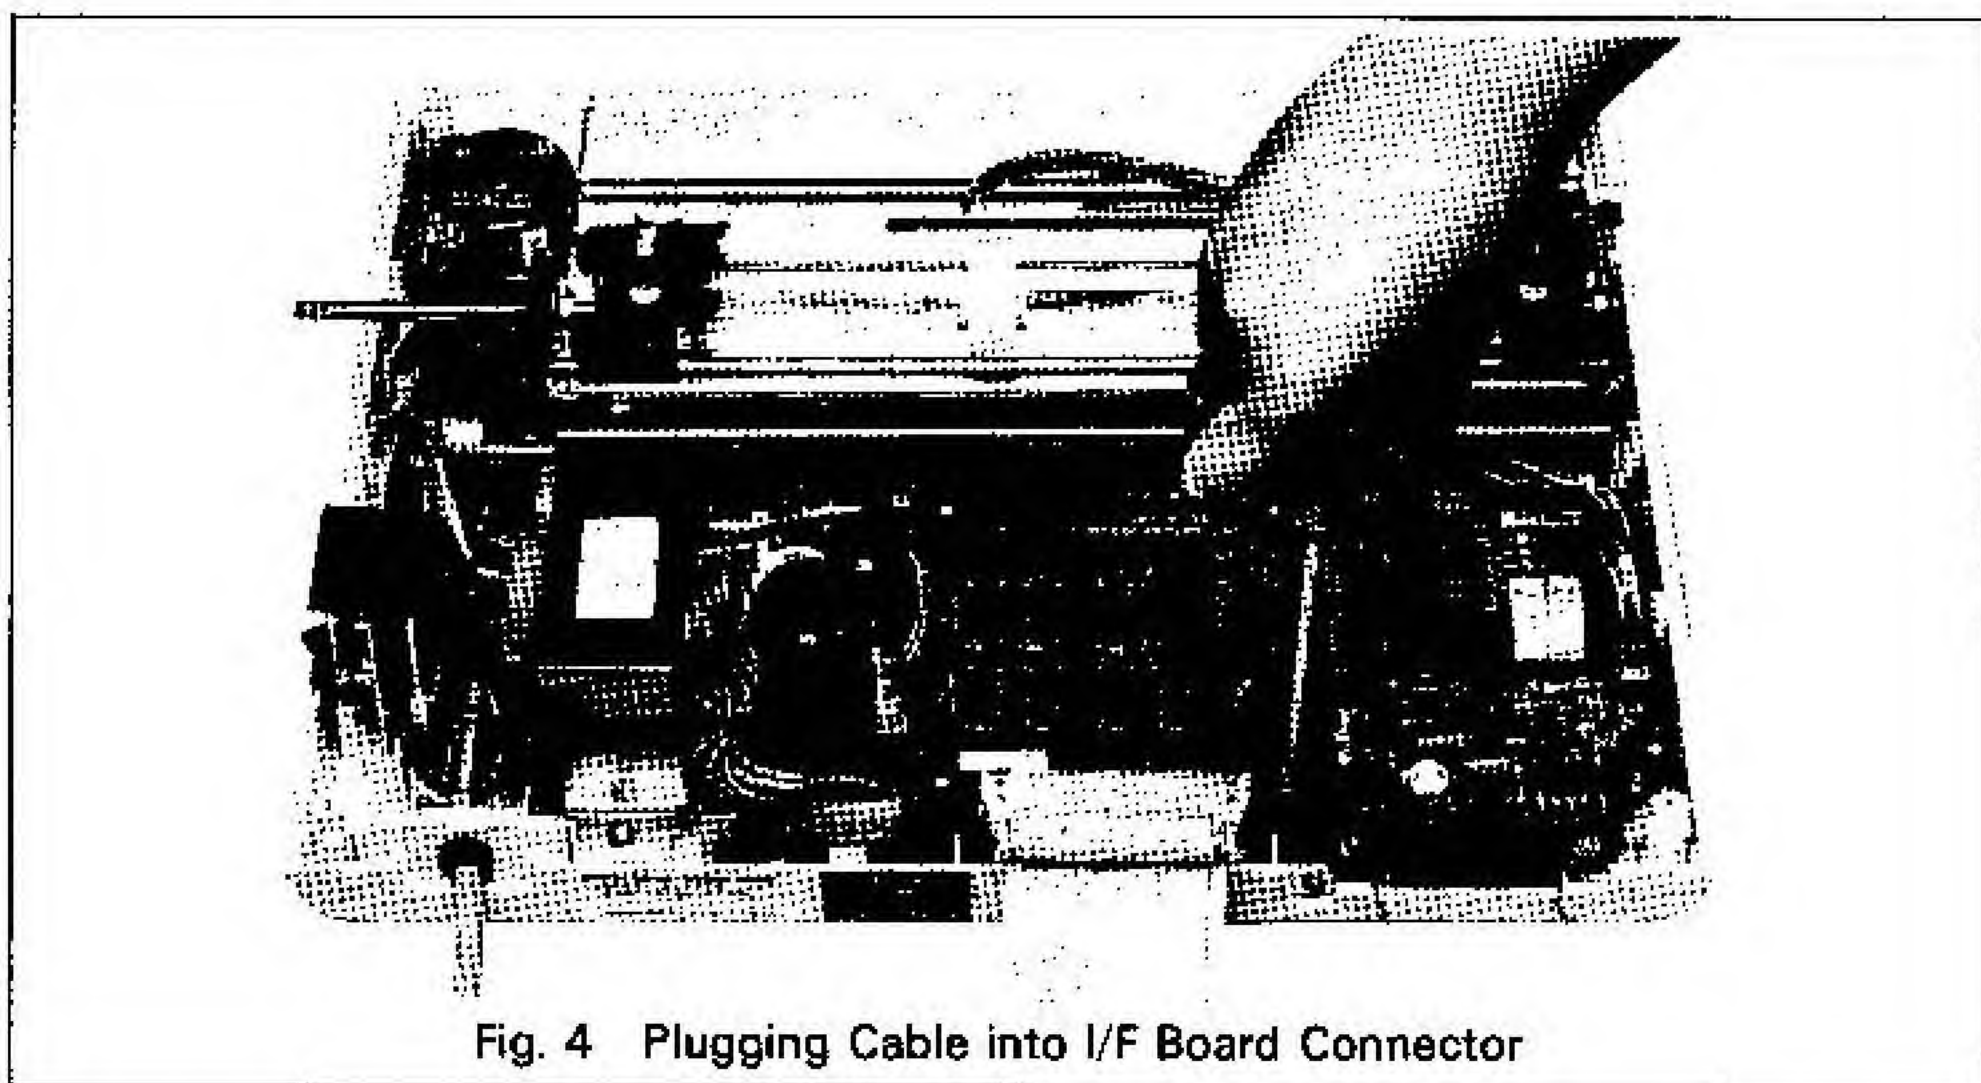

Fig. 4 Plugging Cable into I/F Board Connector
STEP 4. Put the 4 screws into 4 poles and tighten them. (See Fig. 4.)
STEP 5. Plug the bus interface cable connector into the connector of the I/F board. (See Fig. 4.)